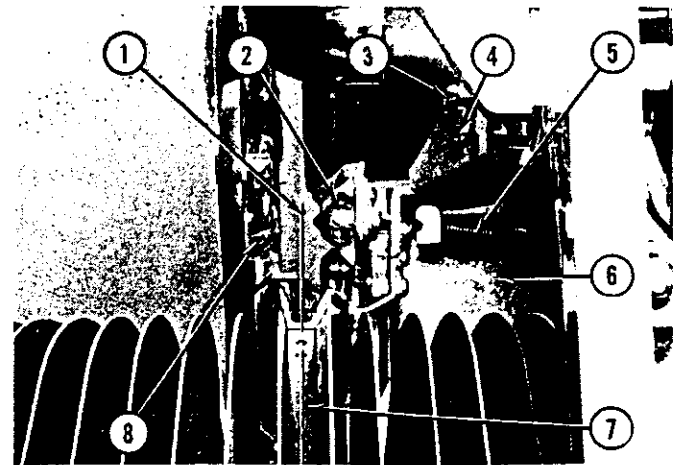

Fig. 97. RECORD GUIDE AND SAFETY SWITCH SETTINGS
a.a. Record Guide and Safety Switch Adjustment. (Fig. 97)
The record guide assembly is mounted on a vertical pivot and is positioned by its adjusting screw (Item 4, Fig. 97) with relation to the record lift arms, right and left. A recommended adjustment procedure follows: